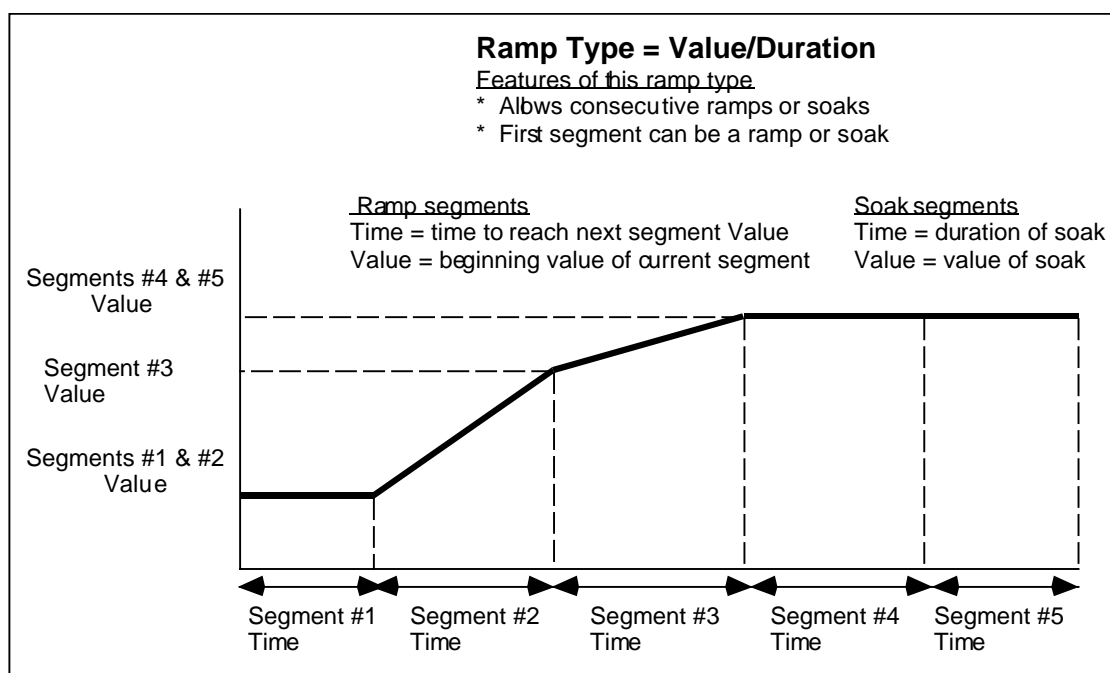

Figure 5-3 Value/Duration Ramp Type
1. The value you want the program to “end” with. Looking at Figure 5-3, the last segment is a soak, thus the Value of segment #6 should be set to the same value used in segment #5. Any other value will cause segment #5 to be a “ramp” since the value will ramp up (or down) from segment #5’s value to segment #6’s value.